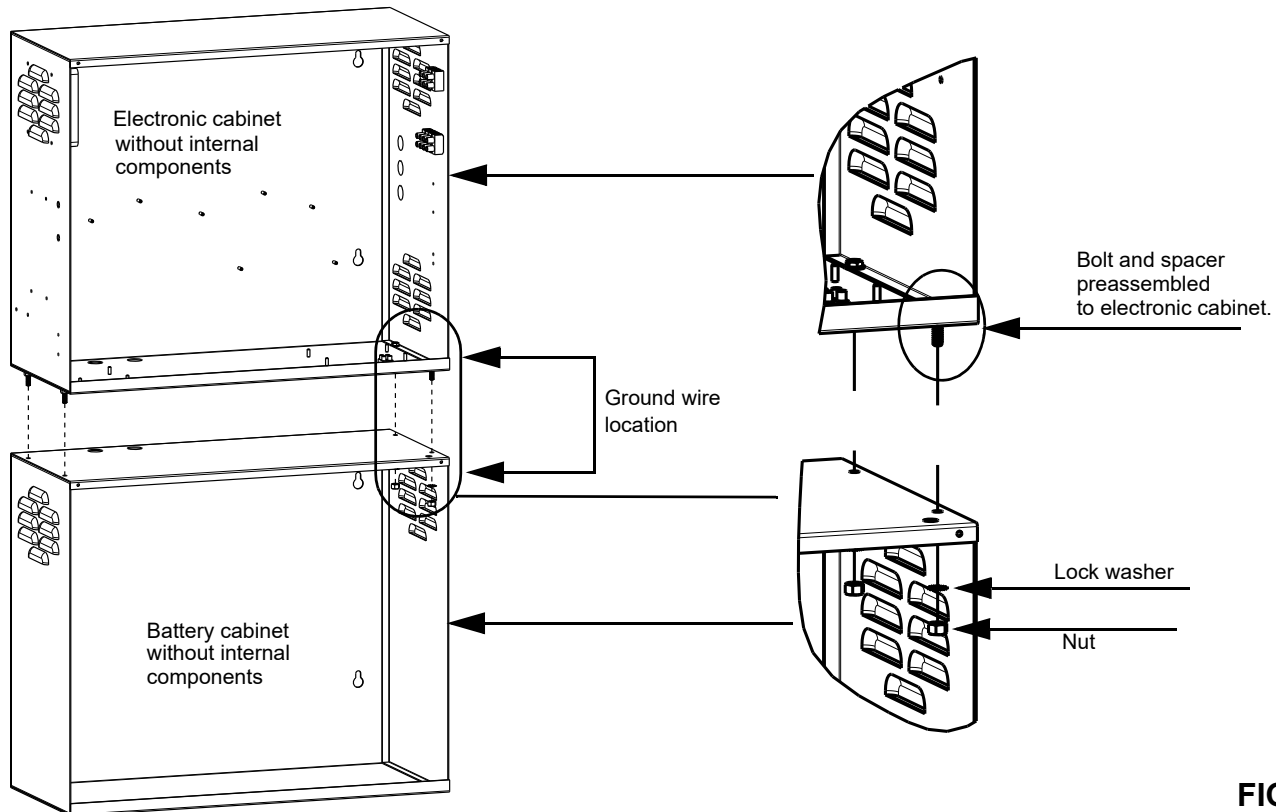

FIGURE 1
STEP 1: MOUNTING THE MINI INVERTER TO WALL (SEE FIGURE 1)